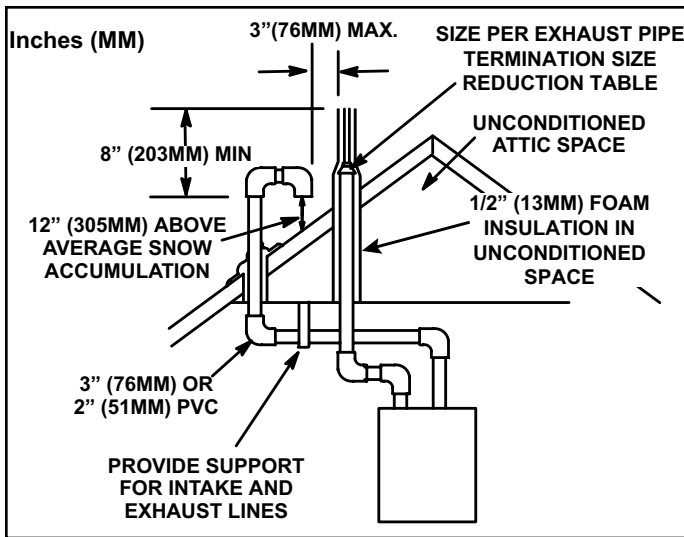

Figure 36. Direct Vent Roof Termination Kit
Intake and exhaust pipes may be routed either horizontally through and outside wall or vertically through the roof. In attic or closet installations, vertical termination through the roof is preferred. Figure 36 through Figure 43 show typical terminations.
3. On roof terminations, the intake piping should terminate straight down using two 90° elbows (see Figure 36).